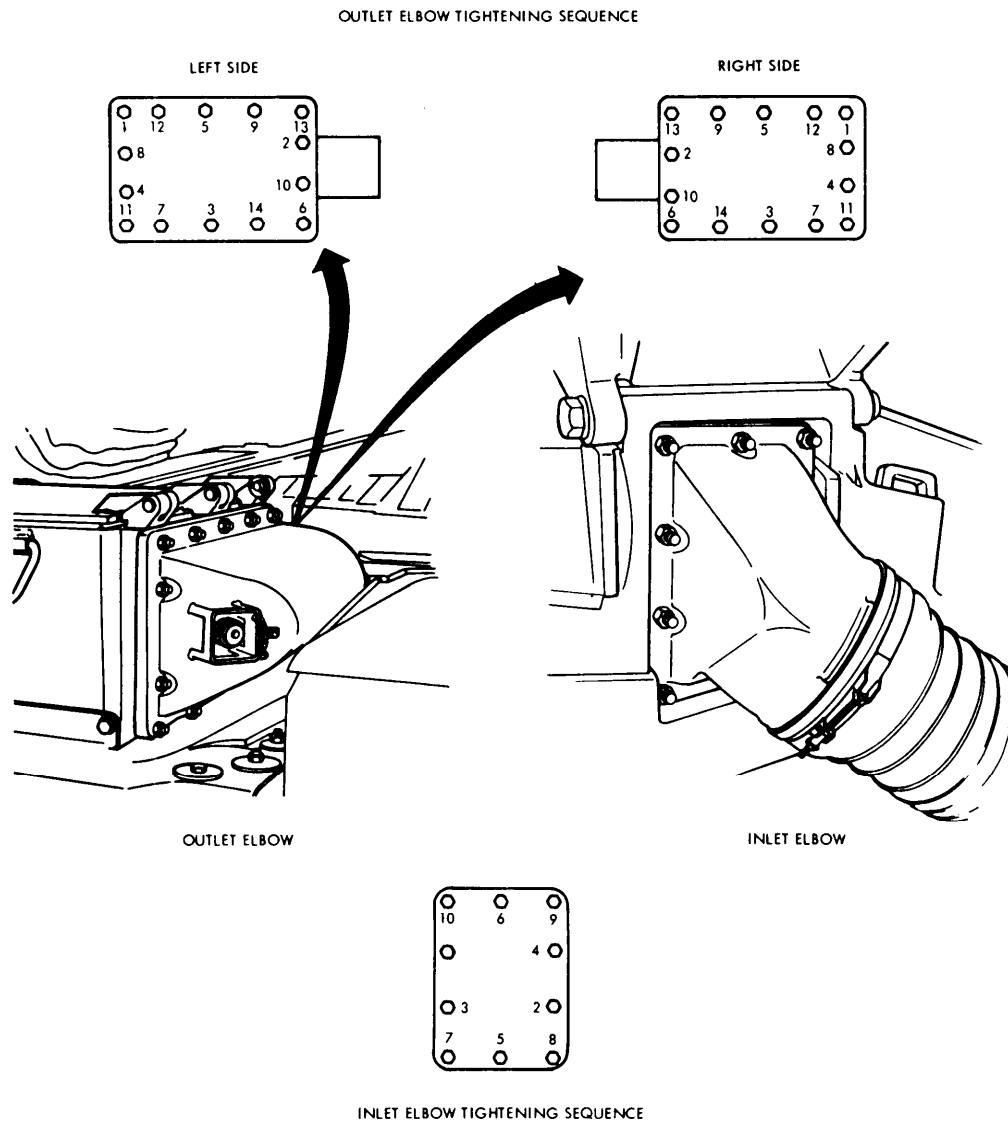

Figure 4-12. Inlet and outlet elbow torquing sequence.
(1) V-band clamps can be used at either end of the outlet.
(2) Quick-release V-band clamp can only be used with the improved hose at the air cleaner outlet elbow.
**4-7. Inlet and Outlet Elbow Torquing Sequence (Fig. 4-12)**